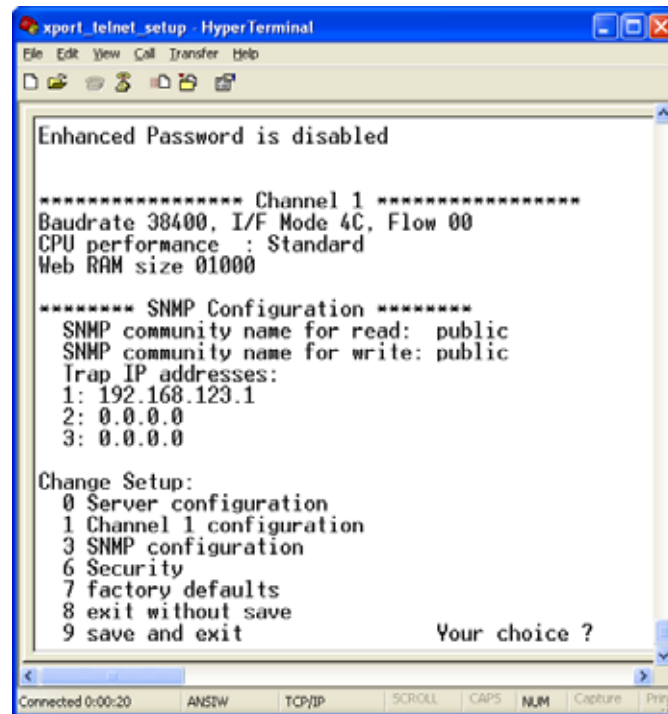

Figure 3.5: Device Server Configuration Menu
Once the *Telnet*[®] connection is established you will be prompted to “Press Enter for Setup Mode”. Press enter and a menu of device server configuration options will appear. Select menu item 3, “SNMP configuration”. You will be presented with a screen like shown in Figure 3.5. You will be prompted to enter SNMP community read and write strings.